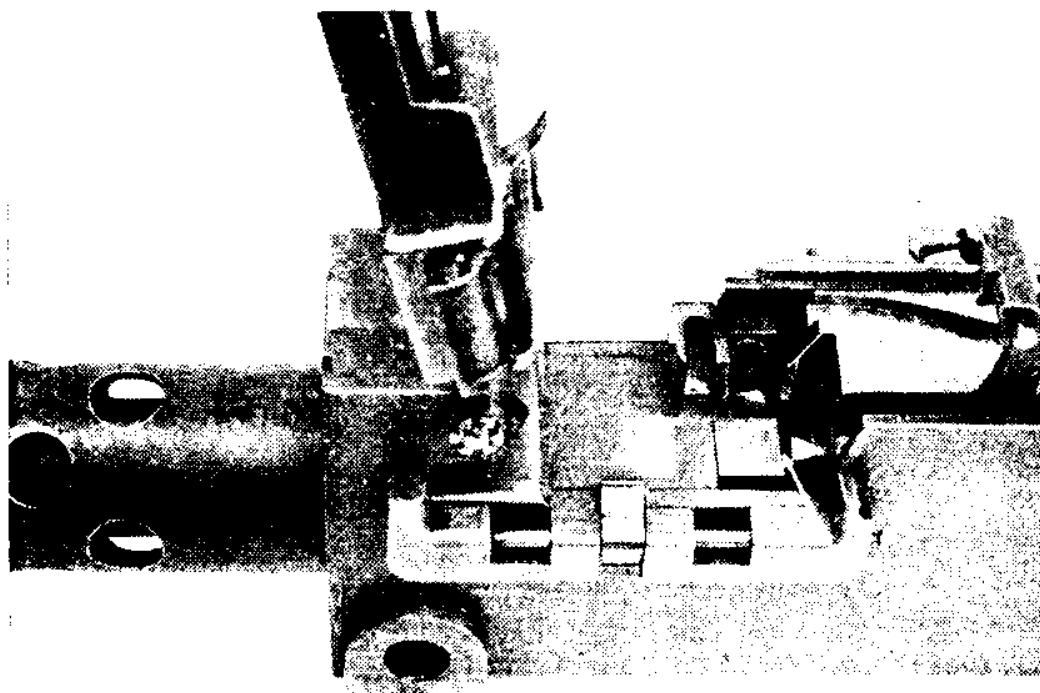

FIGURE 4.—Loose head space.
c. Loose head space (fig. 4).—If the head space is loose, a ruptured cartridge may occur; also if there is a weakness in the cartridge case itself, such as a split case, the possibility of a ruptured cartridge is increased. If the head space adjustment is loose, the bolt can be moved slightly from front to rear independently of the barrel and barrel extension.